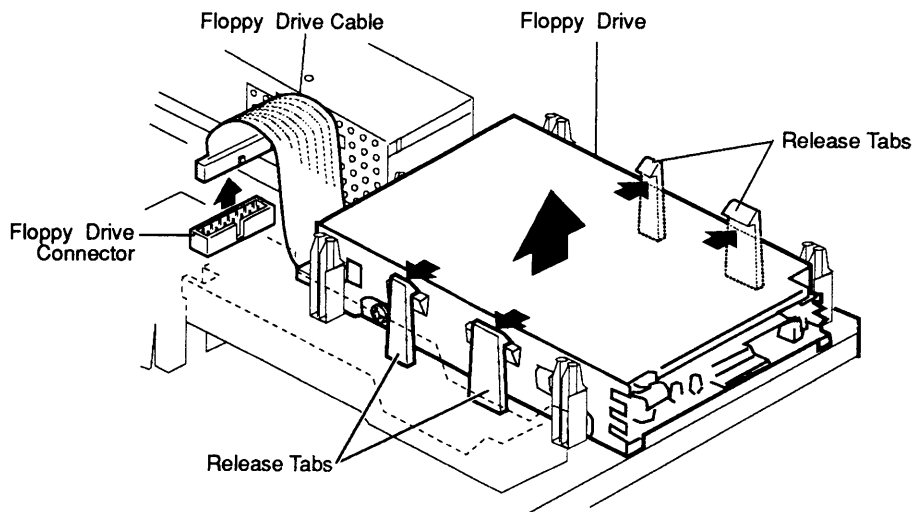

Figure 2-7 Removing the Floppy Drive (Macintosh LC Only)
2. Disconnect the floppy drive cable from the floppy drive connector (J13) on the logic board (**Figure 2-7**).
3. Release the plastic tabs (**Figure 2-7**) on one side of the floppy drive, and lift the drive slightly. Repeat on the other side and remove the drive.
1. Position the floppy drive so that the metal tabs on the drive carrier align with the plastic release tabs (**Figure 2-7**). Push the drive into the bottom case until the drive snaps into place.
2. Connect the floppy drive cable to the drive (if necessary) and to connector J13 (**Figure 2-7**) on the logic board.